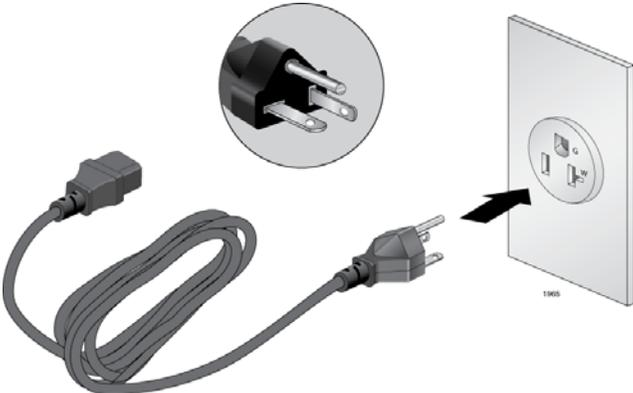

Figure 28. 100 - 125 VAC 125 V NEMA 5-20 Plug and Receptacle
- The power cords provided with the AT-SBxPWRSYS1 and AT-SBxPWRPOE1 AC Power Supplies for 100-125 VAC installations have 20 Amp, 125 V NEMA 5-20P plugs. The plugs are only compatible with NEMA 5-20R receptacles. See Figure 28 on page 69.